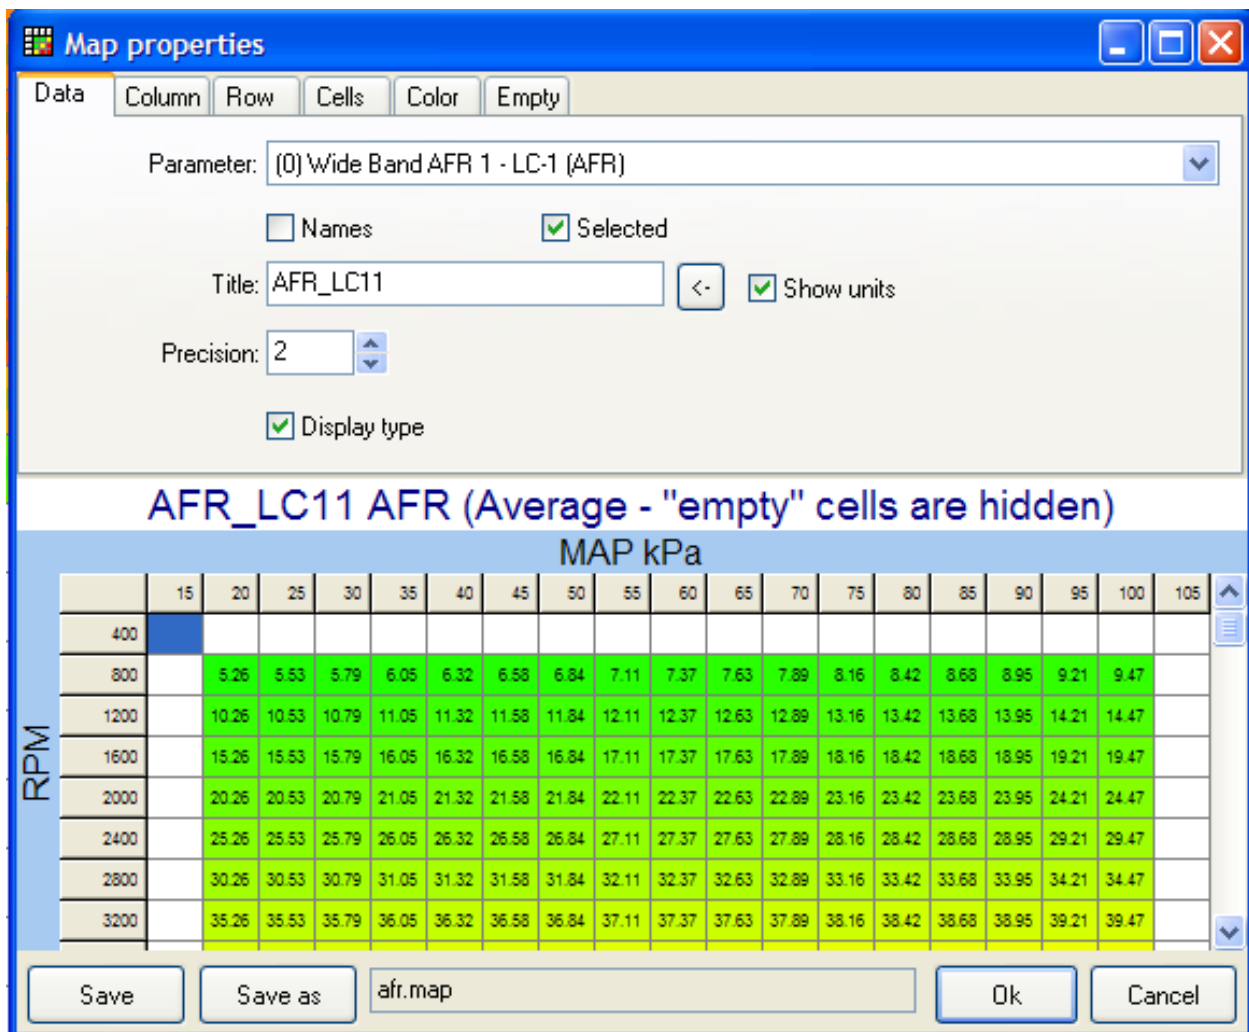

Figure 5: AFR Map Creation – Data
3. Select as data shown in Figure 5.